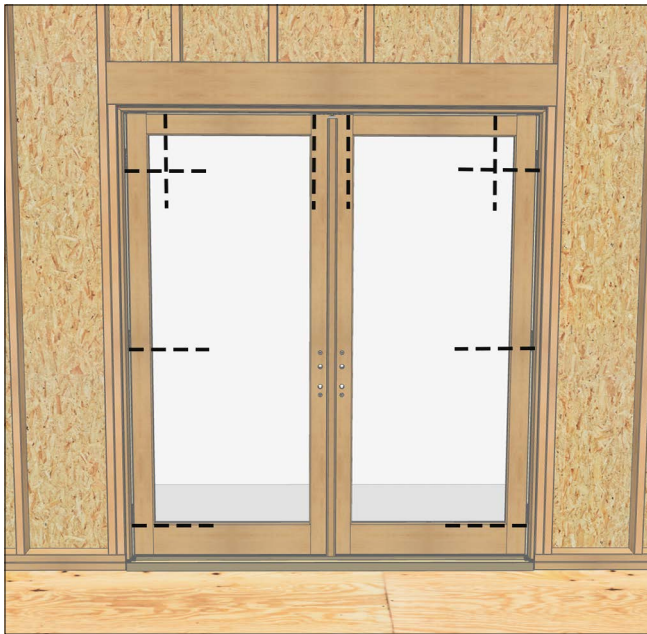

Figure 1
1. Identify the through jamb installation screw and pre-drilled/counter-sunk jamb liner locations (3 locations on jambs, 2-6 locations on head jamb). The panel stops are likely to be shipped taped on, leaving the installation holes visible. See Figure 1.